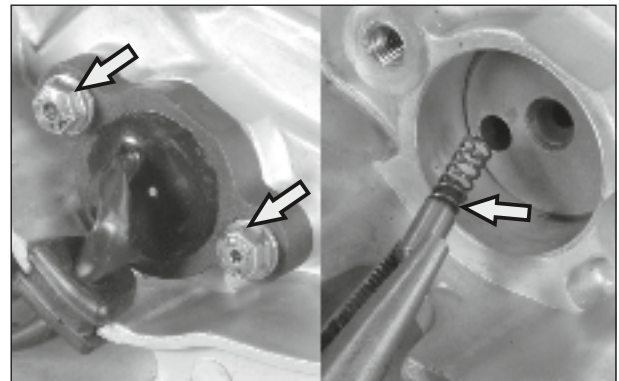

Fig. 3.44
- Loosen and remove 2 nos. hexagonal flange bolt M6X20 and separate the switch gear position from the crankcase.(Fig. 3.44)
- Take out the pin contact switch along with spring contact switch. (Fig. 3.44)